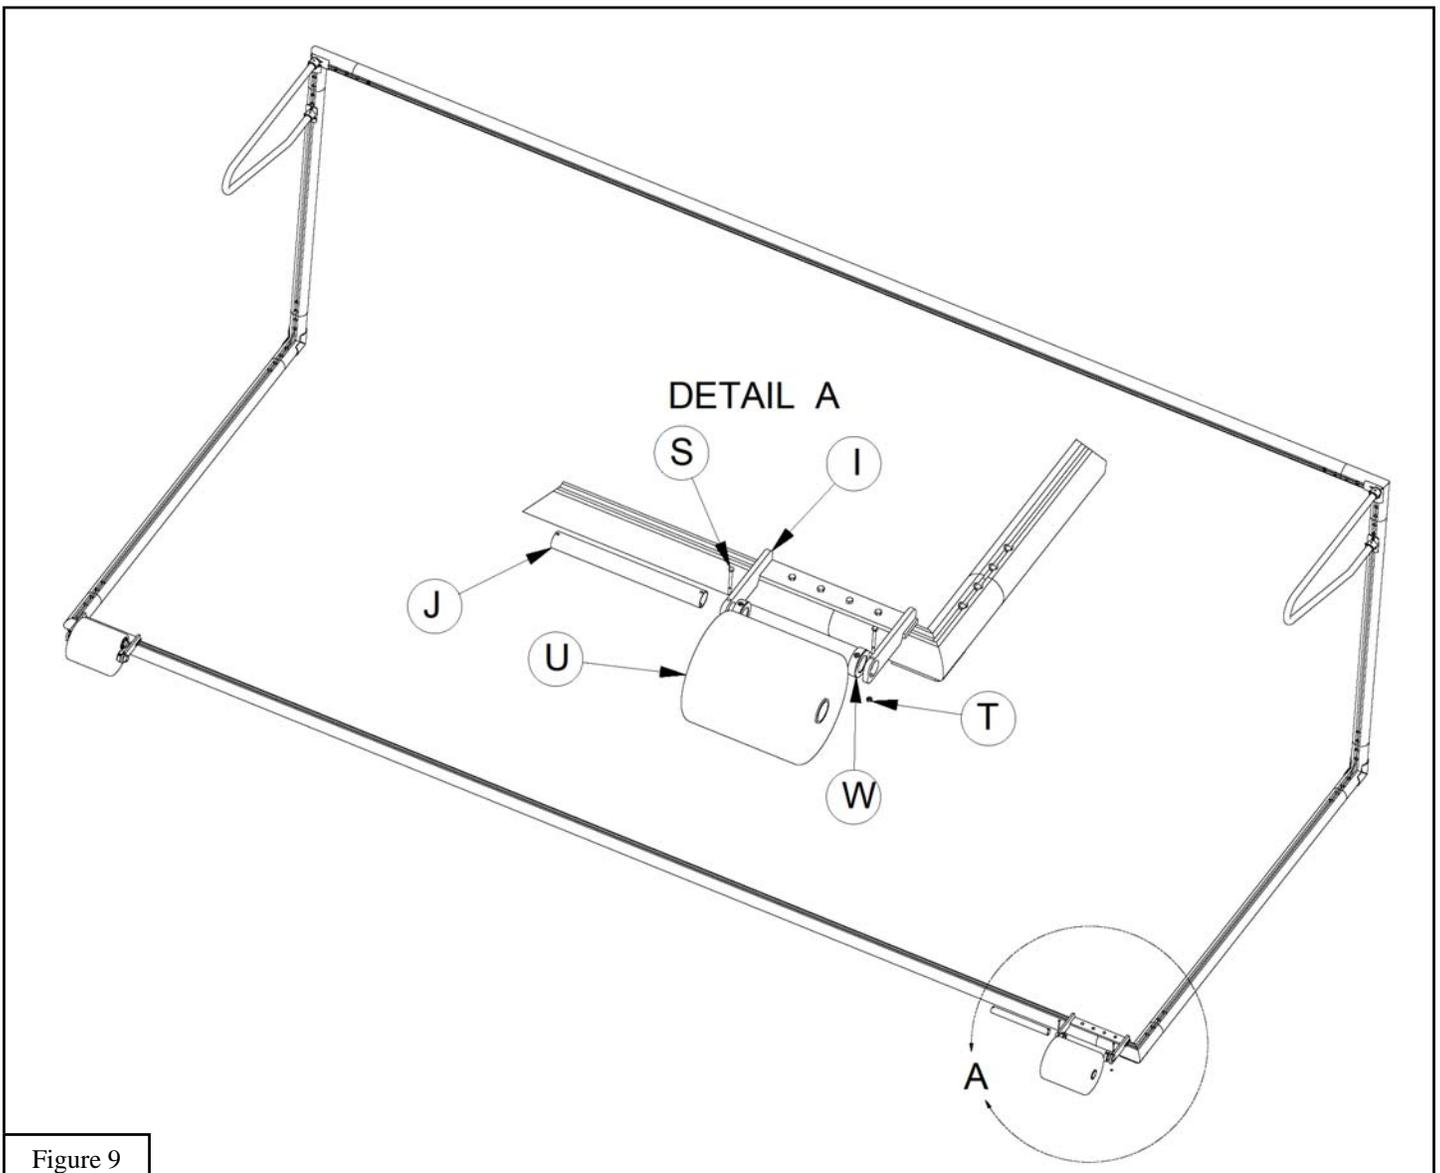

Figure 9
13. Slide *Ballast Axle* (J) through *Ballast Bracket* (I), one *Locking Collar* (W), *Ballast Drum* (U) and a second *Locking Collar* (W). Make sure there is a *Locking Collar* (W) on each side of *Ballast Drum* (U). Tighten *Locking Collars* (W) onto *Ballast Axle* (J). Use *1/4" X 3" Hex Bolts* (S) and *1/4" Lock Nuts* (T) to secure *Ballast Axle* (J) to *Ballast Bracket* (I). See Figure 9.
15. Equally space *Net Attachment Clips* (X) on entire goal. Use *Hook and Loop Fastening Strap* (Y) to secure net as needed.